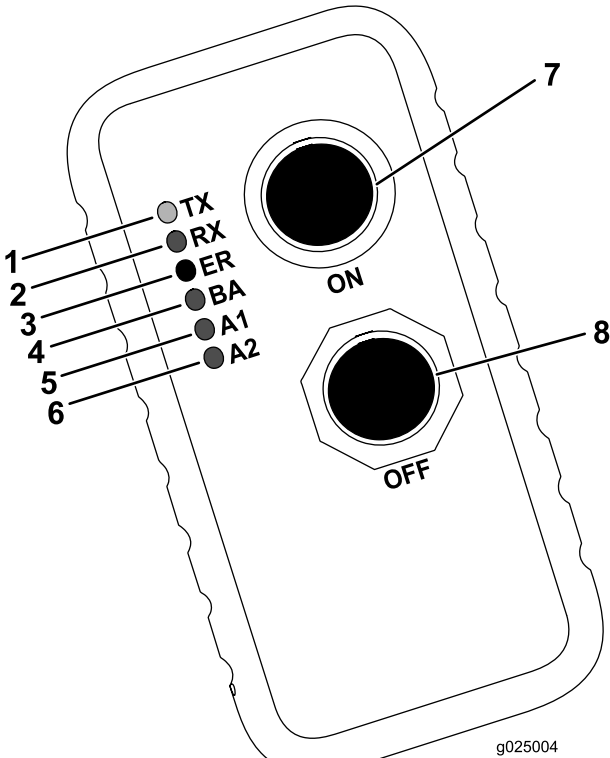

Figure 61
The following table lists the various states of the indicator lights on the handheld transmitter (Figure 61) and their meanings:
4. Simultaneously press and hold the On and Off buttons (Figure 61).
5. Continuously hold both On and Off buttons until the green transmit (TX) indicator light begins to flash (Figure 61).
6. Turn the machine on while continuing to hold On and Off buttons (Figure 61).
7. Release the On and Off buttons (Figure 61).